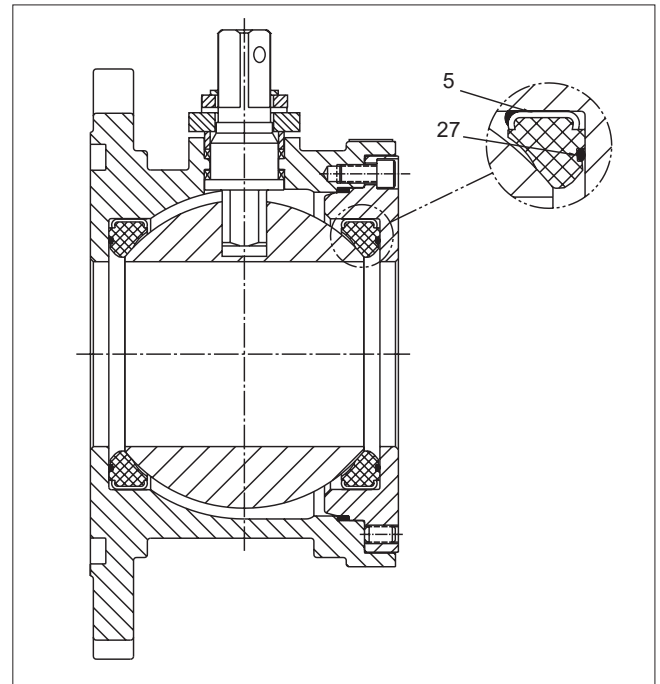

Figure 2.
3.4 BARRIER SEAT INSTALLATION (SEE FIGURE 2 & 3 - REPAIR KIT #RKR-3MB)
1. Place the O-ring (27) in the groove on the back of the seat (5). A small amount of lubricant applied to the O-ring will help hold the O-ring in the groove during assembly.
3. Slide the first seat (5) with O-ring (27) into the body (1) to below the stem opening and tilt it into place so that the proper face will come in contact with the ball (3) (See **Figure 2**).
5. Assemble o-ring (27) and seat (5). Place the seat assembly into the insert (2) in a manner that the sealing face will contact the ball (3) (**Figure 2**). Center and firmly clamp seat assembly into the body using the fixture in (**Figure 3**). Tack weld the seat into position per the instructions indicated in (**Figure 3**).